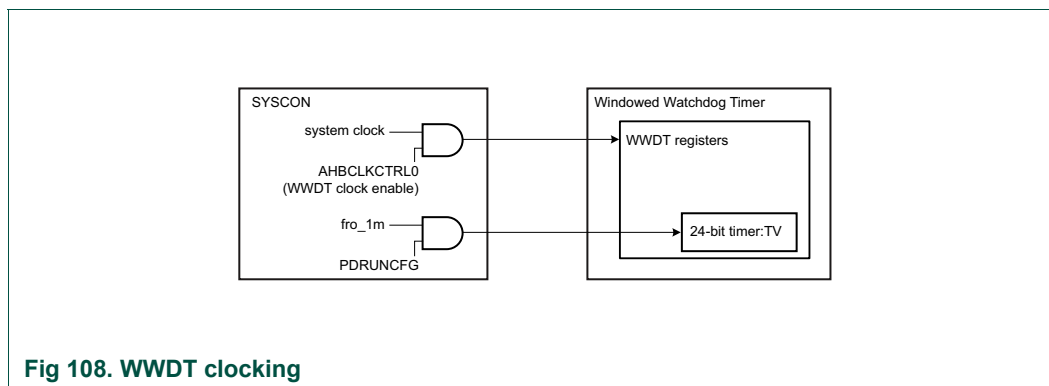

Fig 108. WWDT clocking
- The watchdog clock (WDCLK) is generated from always on FRO\_1MHz clock, see Figure 108 that can be divided by WDT clock divider register value in SYSCON module. See Table 105. The accuracy of this clock is limited to +/- 40% over temperature, voltage, and silicon processing variations. To determine the actual watchdog frequency, use the frequency measure block. See Chapter 11 “LPC55S6x/LPC55S2x/LPC552x Analog control”